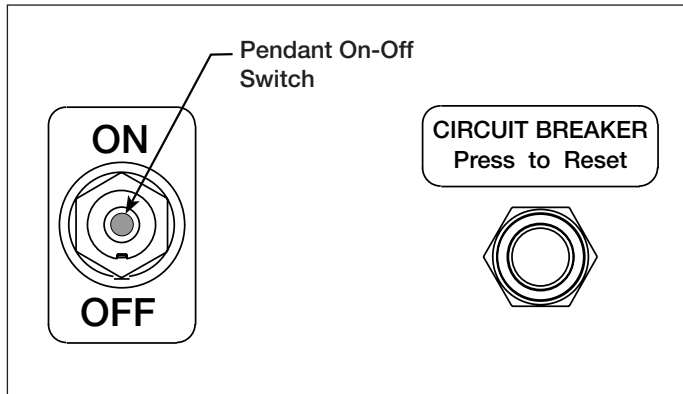

Figure 6, Pump Control Panel
### 5.1 Pump On-Off Switch (See Figure 6)
4. Connect unit to power. Move the pump on-off switch to ON. See Figure 6.